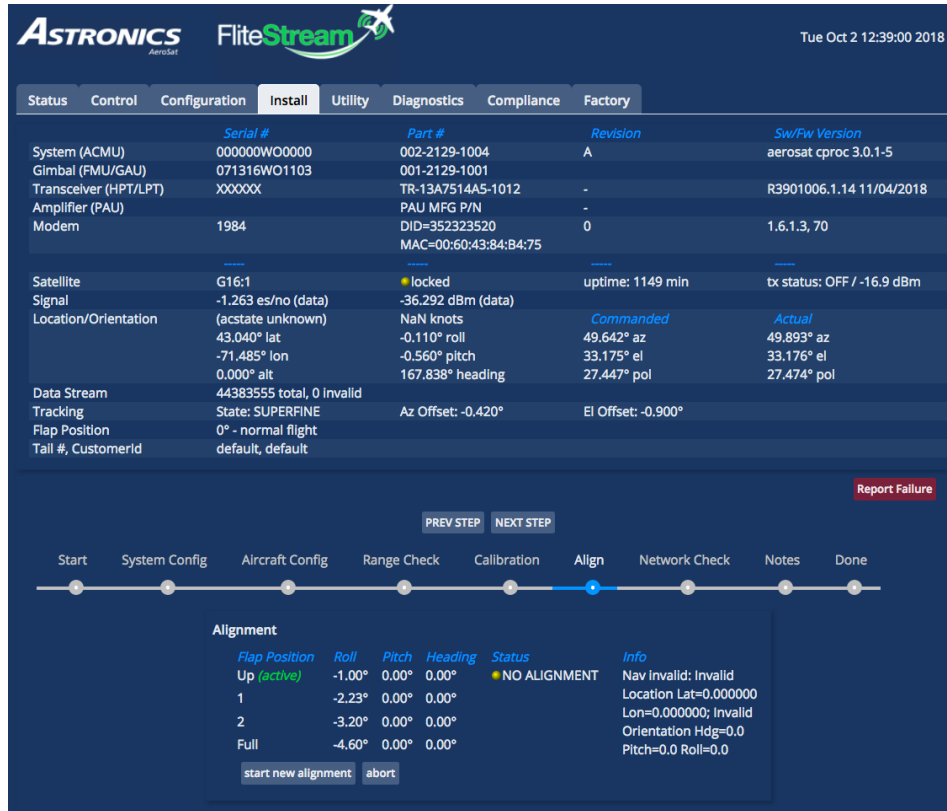

Figure 7 — ACMU Install Tab – Align Step
19. Click the **Install** tab on the Astronics AeroSat FliteStream page. Proceed to the Alignment section, as shown in **Figure 7**.